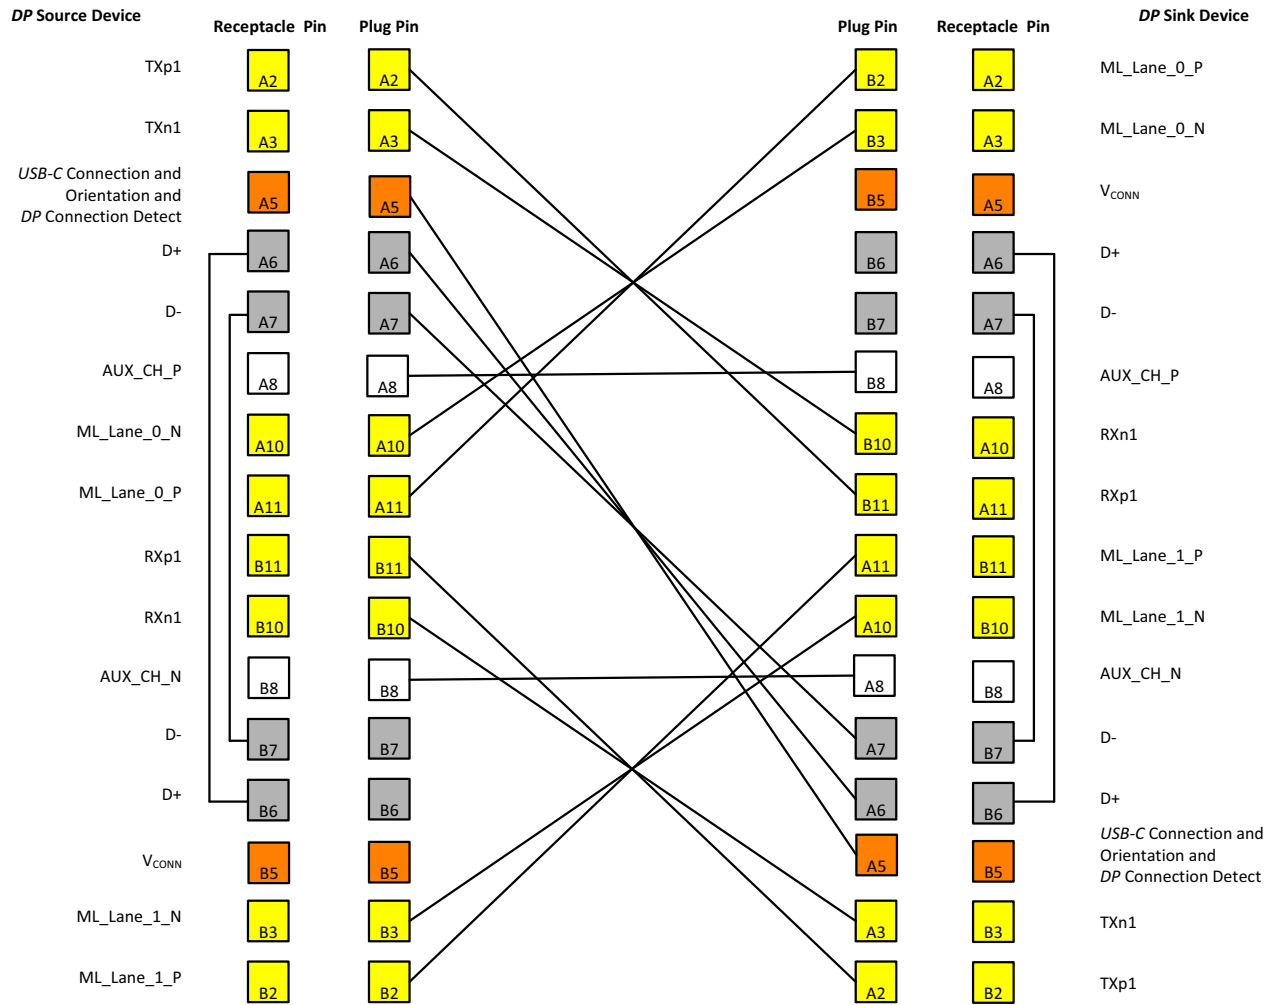

Figure 4-24: Scenario 4a Multi-function Cable Wiring – DP Sink Device Flipped Plug Orientation
- Figure 4-24 illustrates when the *DP* Source device plug is inserted in normal orientation and the *DP* Sink device plug is flipped